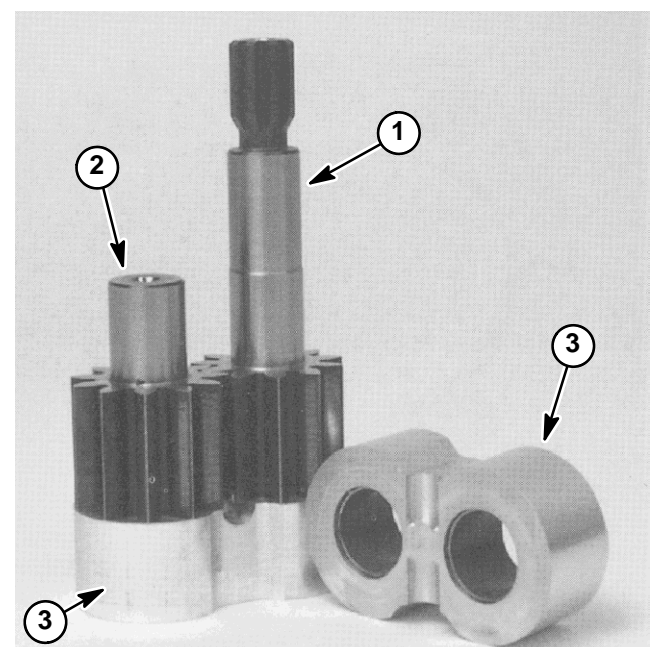

Figure 51
3. Inspect drive gear, idler gear and bearing blocks (Fig. 51) for the following: